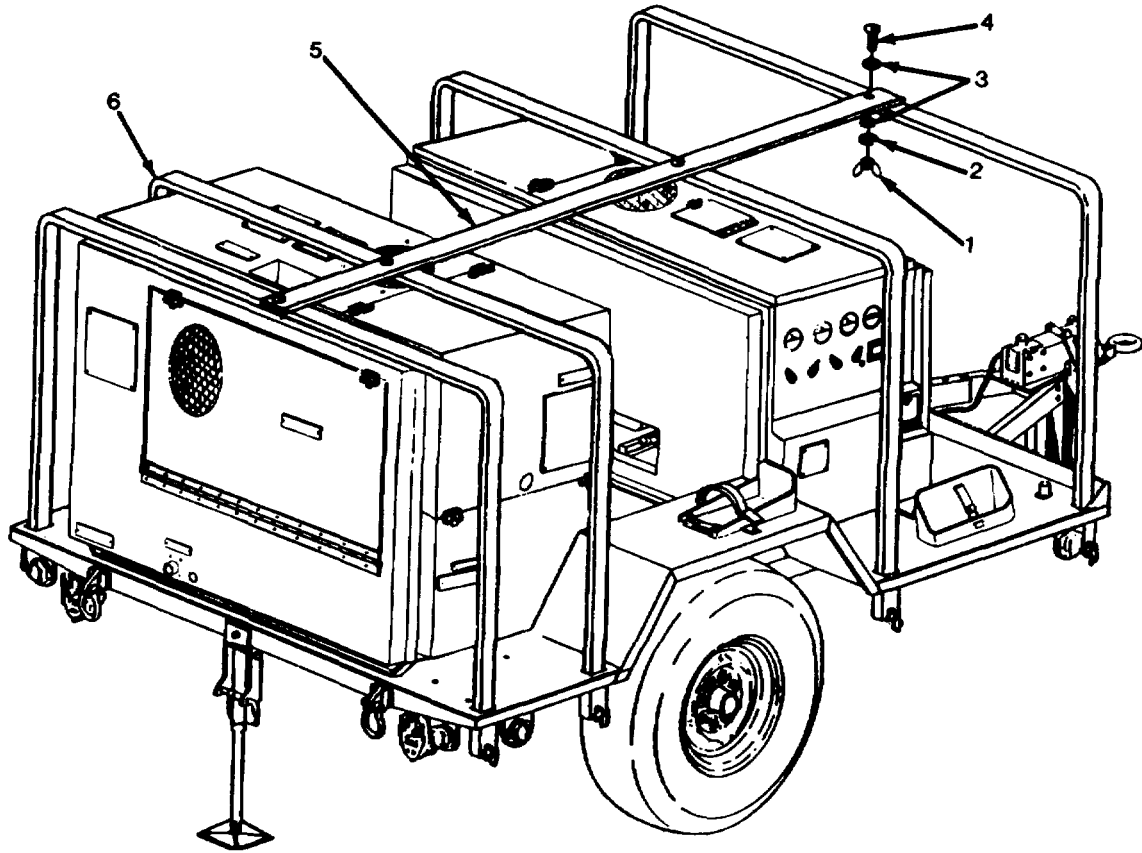

Figure 3-3. Tarpaulin Support Replacement on AN/MJQ-33.
- (e) Secure front and rear curtains (4, 6) to sides (7) with six straps and buckles (3) provided on each curtain.
- (f) Secure tarpaulin to trailer body (2) with 25 ropes i(1) provided.
- b. Tarpaulin Support and Bow Assembly Replacement. (See Figures 3-3 and 3-4.)
(1) Removal.
- (b) Remove wingnut (1, figure 3-3), lockwasher (2), two flat washers (3) and screw (4) securing tarpaulin support (5) to each of four bow assemblies (6) and remove tarpaulin support.
- (b) Position tarpaulin support (5, figure 3-3) on bows (6) and secure tarpaulin support to each bow with one screw (4), two flat washers (3), lockwasher (2), and wing nut (1).